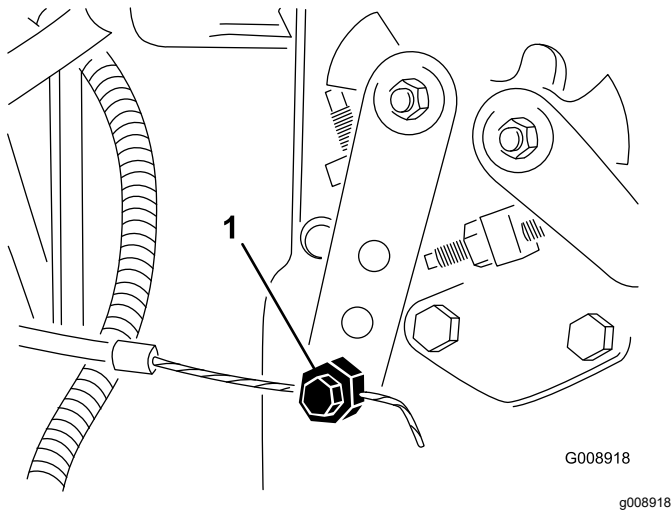

Figure 87
4. Loosen the throttle cable connector on the injection pump lever arm (Figure 87).